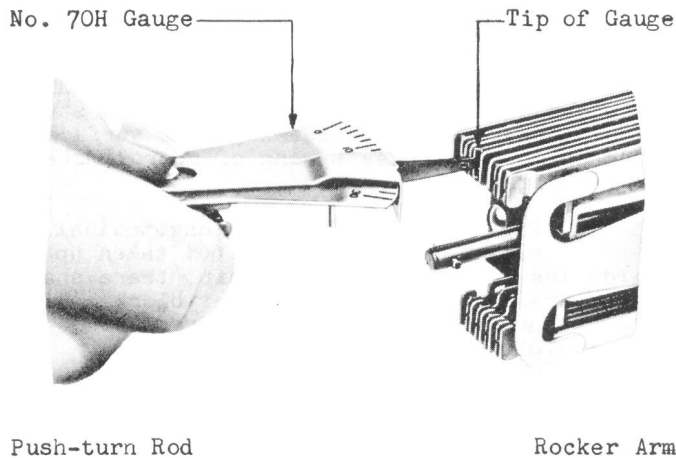
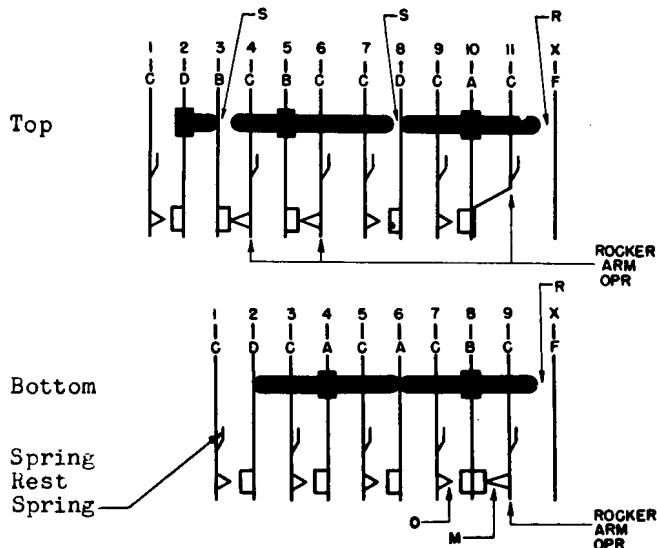
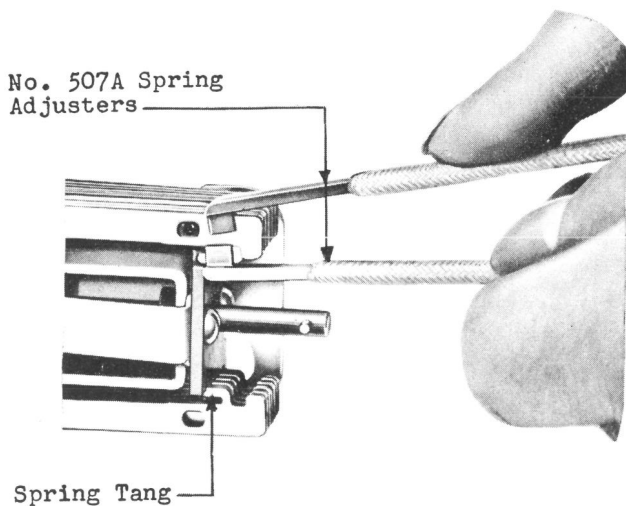

Fig. 5 - Method of Checking Spring Tension
Fig. 7 - Spring Combination - No. 580A Key
Fig. 11 - Method of Adjusting Spring Tangs
Gauge by eye. The thickness of the No. 2 spring (top or bottom) of the spring combination shown in Fig. 7 is .013"
(a) All springs shall be tensioned toward the rocker arm. The tension of each spring measured in grams shall be in accordance with the information given in Fig. 7. Unless otherwise specified or unless the abbreviation "Rocker Arm Opr." is shown associated with an arrow mark leading to a spring
in Fig. 7, the tensions shall be measured with the rocker arm in the normal position. A spring tensioned against the spring rest, rocker arm or stud shall register the required tension just as the spring leaves the spring rest, rocker arm or stud. A spring whose contacts are tensioned against the contacts of an opposing spring shall register the required tension just as the contacts break. Use the No. 70J or 70H gauge to check the tension. The tension of all springs having contacts shall be measured in front of the contacts. Apply the gauge so that the tip of the gauge engages both prongs of the bifurcated springs as indicated in Fig. 5. When gauging tension on solid springs apply the tip of the gauge near the front end of the spring just in front of the contacts.
2.13 Stud Gap: With the key in the normal position there shall be a clearance between the stud and spring, at points marked "R" and "S" in Fig. 7. Gauge by eye.
Gauge by eye. The thickness of the No. 2 spring (top or bottom) of the spring combination shown in Fig. 7 is .013".
Exception: The contact follow for normally open springs 1 and 2 top shown in Fig. 7 shall be
**2.16 Contact Sequence - Fig. 7**
(1) To adjust for the "R" stud gaps (Fig. 7) adjust the end of the rocker arm which rests against the "F" springs with the No. 485A pliers. Adjust for the "S" stud gaps (Fig. 7) by adjusting the spring tang of the associated spring controlling the gap. Adjust the tang to the right or left as required, using the No. 507A spring adjuster, while holding the spring with another No. 507A spring adjuster as shown in Fig. 11. It is satisfactory if, in making this adjustment, the spring tang does not rest flat against the spring rest. Exercise care however to see that requirement 2.09 covering spring tang position is met.
(2) To correct the contact separation, adjust the moving springs with a No. 505A or No. 506A spring adjuster, using the No. 505A adjuster whenever possible or adjust the spring tang of the springs which rest against the spring rest as outlined in (1).